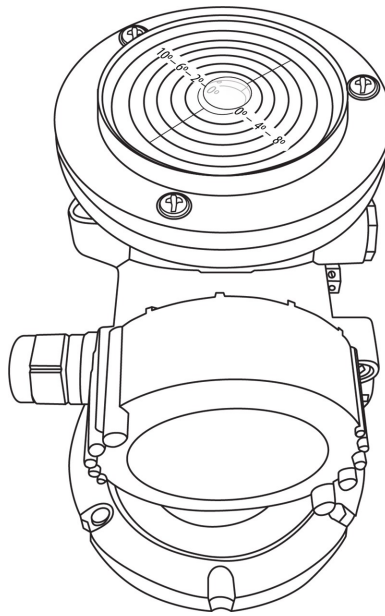

FIGURE 7-5. Campbell Scientific bubble level properly mounted on top of CS475A
- b. Place the bubble level on the top of the CS475A (FIGURE 7-5 (p. 16)).